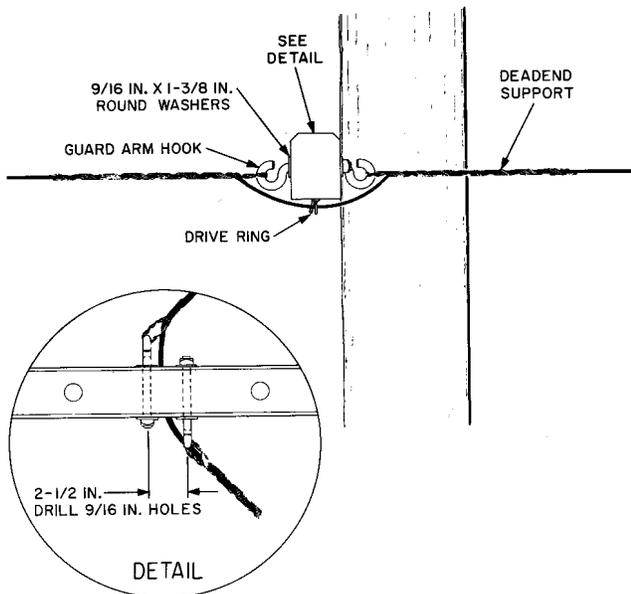

Fig. 11—Attaching to Crossarm on Pole With 10 to 50 Foot Pull
8.04 Corners where the pull is more than 10 feet and less than 50 feet can be made on the crossarms by using guard arm hooks as shown in Fig. 11. At corners with over 50 feet of pull, the wire should be dead ended in the usual manner. When the corner is made with a double arm, attach one guard arm hook in each crossarm to hold the dead-end support.